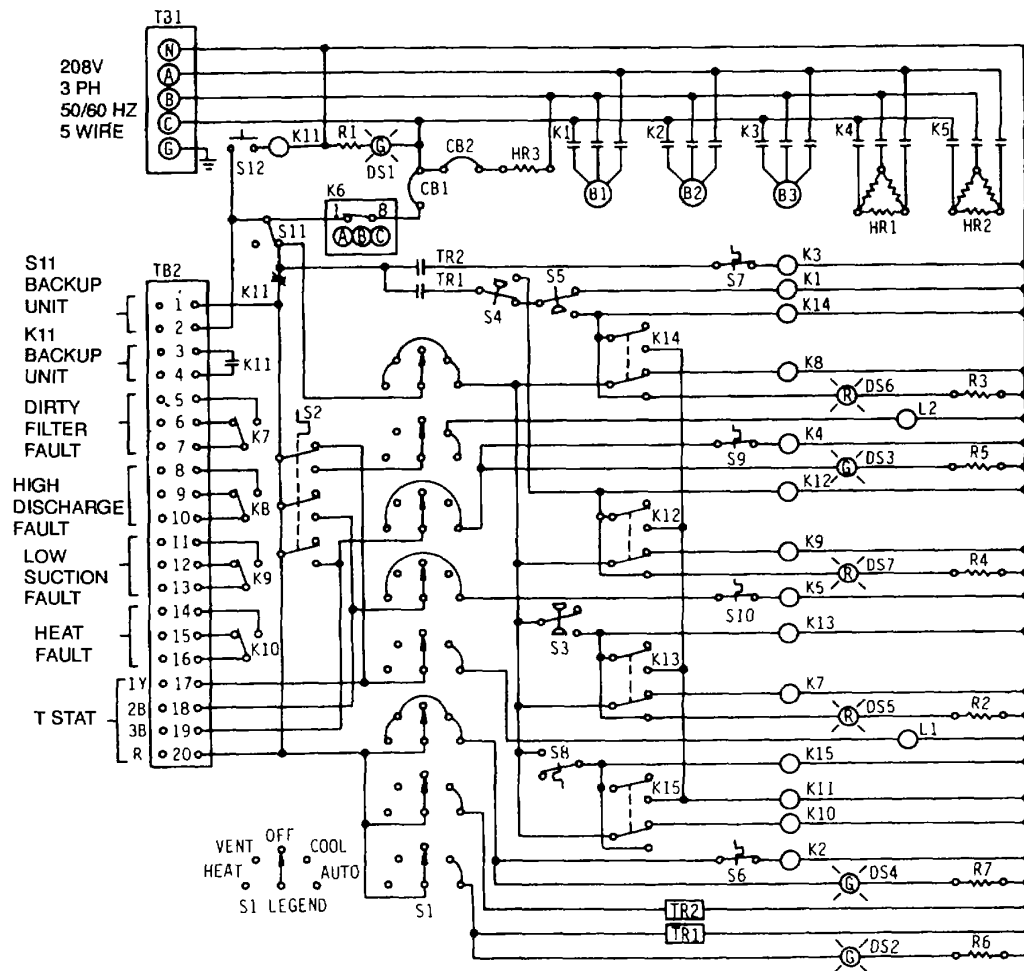

Figure 4-12. Electrical Schematic
4.18 **FUNCTIONAL DESCRIPTION.** The air conditioner control circuits are described in the following paragraphs. It is very important for the technician to note that even when the air conditioner mode switch is positioned to OFF and circuit breakers CB1 and CB2 are open, live voltage is available throughout the air conditioner and at least one input phase C circuit is complete to neutral. (See fig 4-12 and fig. FO-2.).
4.19 COOL FUNCTION. The principles of operation for the air conditioner, operating as the primary unit while in the COOL or AUTO mode of Operation, are described in the following subparagraphs (see fig. 4-12 and fig FO-2.).
**4.20 HEAT FUNCTION.** The principles of operation for the air conditioner, operating as the primary unit while in the HEAT or AUTO mode of operation, are described in the following subparagraphs (see fig. 4-12).